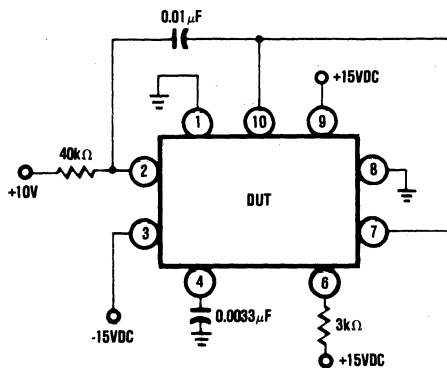

FIGURE 5. Test Circuit, Burn-in and Operating Life Test.
- Test circuit is Figure 5 herein
- (1) Test condition B
- (2) Test circuit is Figure 5 herein
- (3) $T_A = +125^\circ\text{C}$ minimum
- (4) Test duration is 1000 hours minimum